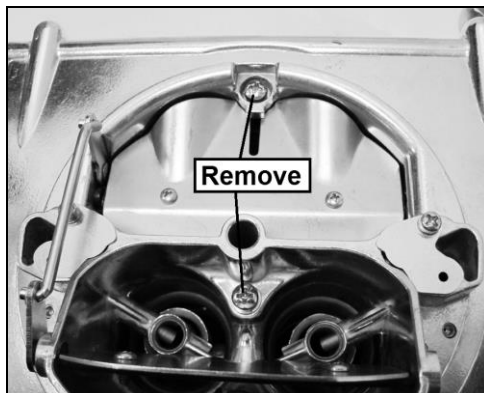

Figure 21
3. Remove the two Phillips head screws from the top of the carburetor (Fig. 21).